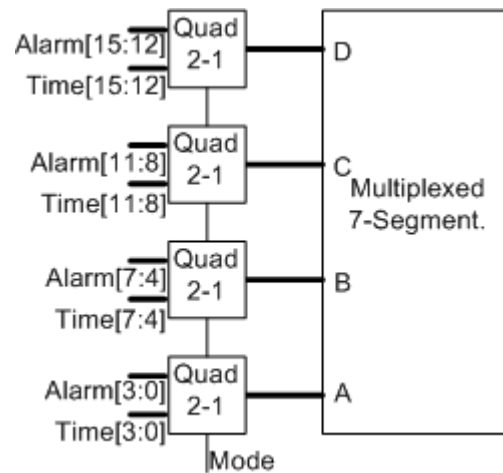

Figure 9.2: Selecting Between the Current and Alarm Times
14. This macro has four input buses that allow you to display either the current or alarm time. To be able to selectively display either of them you need to add a quad two-to-one multiplexer at every bus to select between current or alarm time counters, with the select lines connected to MODE signal as shown in Figure 9.2.